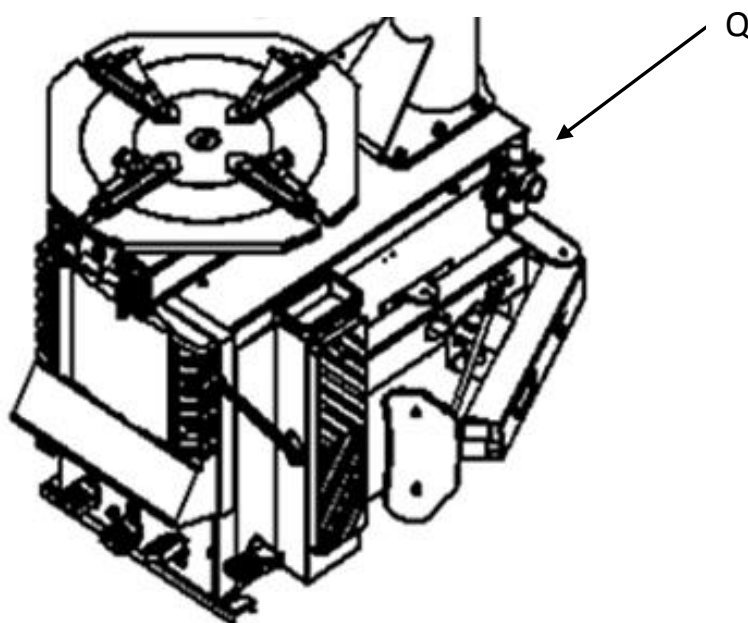

Figure 7
- ◇ As shown in Figure 7, the compressed air system is connected to the machine by a pipe joint (Q) on the side of the tank.